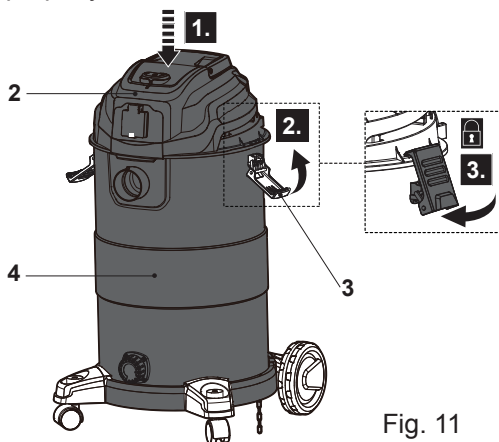

Fig. 11
- > Place the motor unit (2) with cartridge filter (25) onto the tank (4) and secure it with the clasps (3) (Fig. 11). Ensure the motor unit sits properly on the tank and the connection is properly sealed.